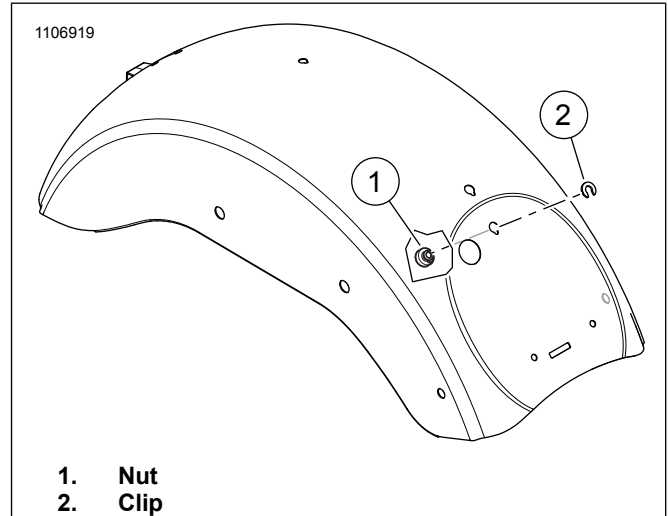

Figure 1. Fender Seat Nut (typical)
3. See Figure 1. Remove seat clip (2) and retaining nut (1).